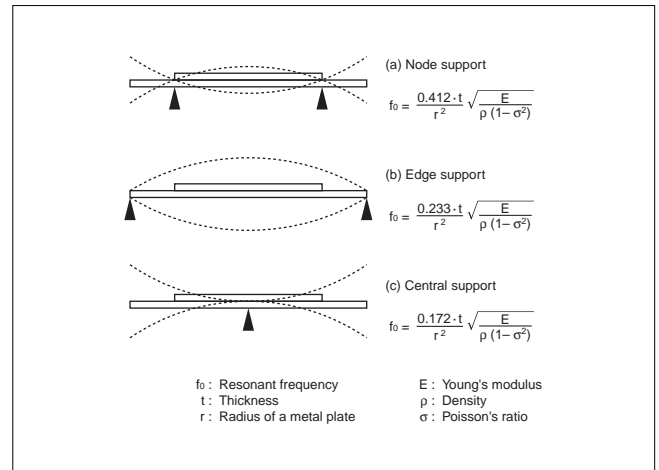
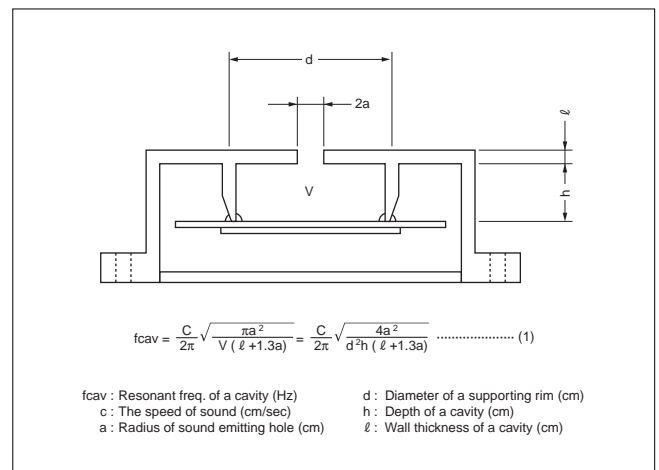

Fig. 3 Supporting Method
Fig. 4 Sectional View of a Cavity
In general, man's audible frequency range is about 20 Hz to 20kHz. Frequency ranges of 2kHz to 4kHz are most easily heard. For this reason, most piezoelectric sound components are used in this frequency range, and the resonant frequency ( $f_0$ ) is generally selected in the same range too. As shown in Fig. 3, the resonant frequency depends on methods used to support the piezoelectric diaphragm. If piezoelectric diaphragms are of the same shape, their values will become smaller in the order of (a), (b) and (c). In general, the piezoelectric diaphragm is installed in a cavity to produce high sound pressure (Fig. 4). The resonant frequency ( $f_{cav}$ ) of the cavity in Fig. 4 is obtained from Formula (1) (Helmholtz's Formula). Since the piezoelectric diaphragm and cavity have proper resonant frequencies, ( $f_0$ ) and ( $f_{cav}$ ) respectively, sound pressure in specific frequencies can be increased and a specific bandwidth can be provided by controlling both positions.
Fig. 9 shows a typical application of the self drive method. The piezoelectric diaphragm provided with feedback electrode shown in Fig. 9 (i) is involved in the closed loop of a Hartley types oscillation circuit. When the frequency is closed to the resonant frequency, the circuit satisfies oscillating conditions, and the piezoelectric diaphragm is driven with the oscillating frequency. Fig. 9 (ii) shows a simple oscillating circuit consisting of one transistor and three resistors. In general, the node support shown in Fig. 3 (a) is popular in the self drive method. Proper resonance of the piezoelectric diaphragm by the node support provides stable oscillation with high mechanical Qm of vibration but also a single high pressure tone. Basic oscillating conditions of this circuit are shown below.
In addition to the previous methods based on the electrical circuit, it is also possible for Piezoelectric sound components to raise up S.P.L. by using a resonant cavity based on Helmholtz's Formula in Fig. 4 of Page 3. Concerning these items, please feel free to contact the sales division.